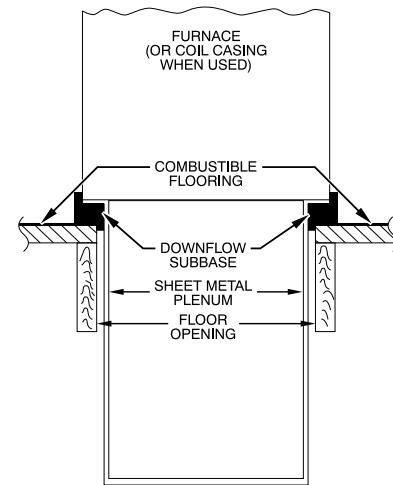
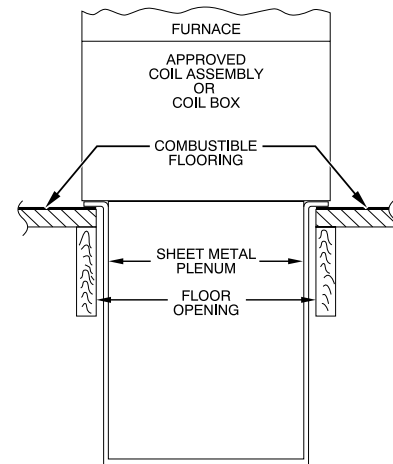

Fig. 12 – Furnace, Plenum, and Subbase Installed on a Combustible Floor
Fig. 13 – Furnace, Plenum, and Coil Assembly or Coil Box Installed on a Combustible Floor
4. If downflow subbase is used, install as shown, see Fig. 12. If manufacturer's cased evaporator coil or coil casing is used, install as shown in, see Fig. 13.